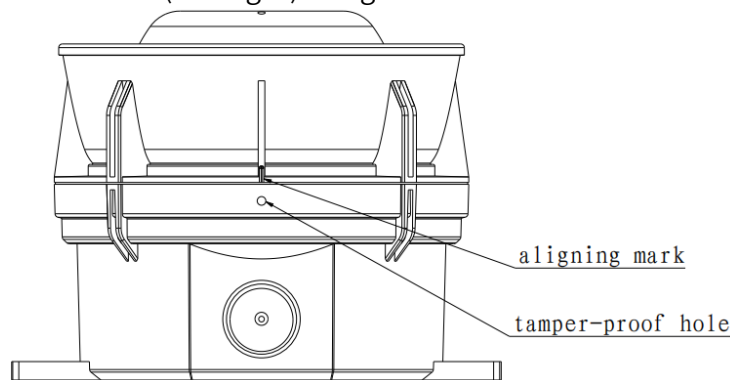

Fig.8
- (4) Wiring requirement: It is advisable to use RVS twisted pair with a cross-sectional area of  $\geq 1.0 \text{ mm}^2$ .
- (5) Tamper-proof function: If the Sounder Beacon siren needs to be tamper-proof, it needs to be secured in the tamper-proof holes on the base (see Fig. 8) using an ST2.9 x6.5 screw.